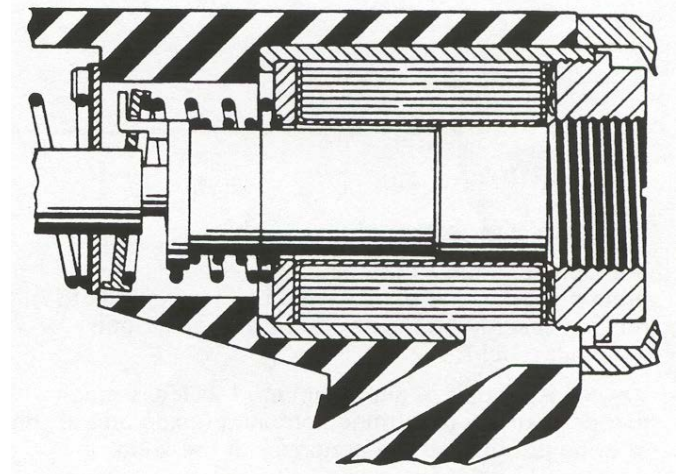

Figure 7: Gun mechanism in lifted position
1. Mainspring (1) is partially compressed and lifting rod (5) slides through lifting ring (4) as the gun is placed in weld position.
2. Pressing gun trigger button energizes gun coil (2).
3. The gun coil (2) pulls the movable core assembly (3), causing the lifting hook of the movable core assembly to cock the lifting ring (4) on the lifting rod (5).
4. At the same time, the lifting ring spring (6) and core spring (7) are compressed.
5. The cocked ring locks on the lifting rod, and the movable core assembly "lifts" or pulls back the entire assembly, including the stud (see Figure 7).
8. At the end of this time period, the gun coil (2) is de-energized.
9. The movable core assembly (3) is returned to normal position by the core spring (7).
10. The lifting ring (4) is uncocked by the lifting hook and lifting ring spring (6).
11. The mainspring (1) returns the assembly to normal position, and this action "plunges" the molten end of the stud into a pool of molten metal on the base plate, thus completing the weld.